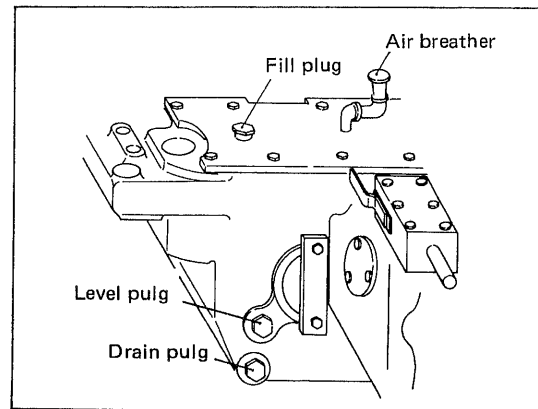

Fig. 40
- (2) When reassembling is complete, refill specified fluid to specification after removing filler plug and level plug. (Fig. 40)